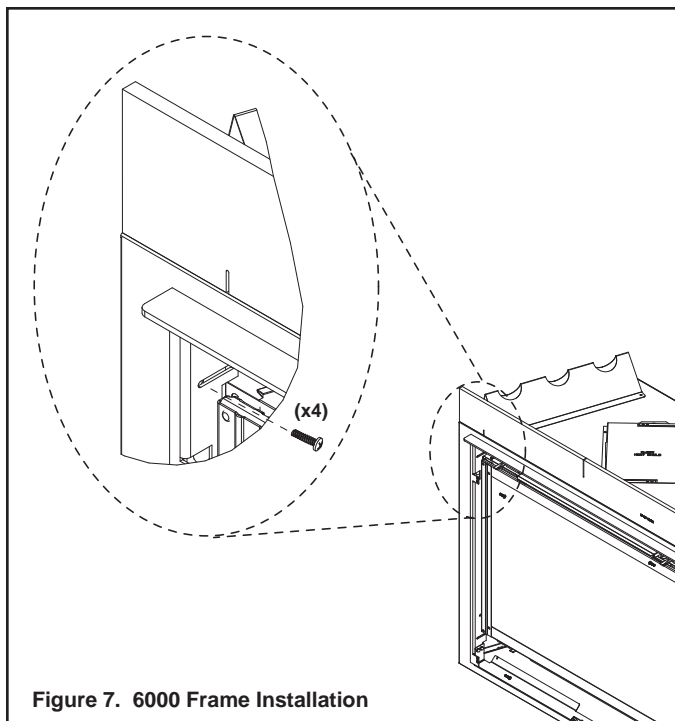

Figure 7. 6000 Frame Installation
2. Push frame flush to finishing material. There are four threaded rivnuts located in the left and right sides of the fireplace surround. These rivnuts will line up with slots in the left and right frame components. Use the 4 supplied 6000 Series Mounting Screws shown in Figure 3 to secure the frame in place. See Figure 7.